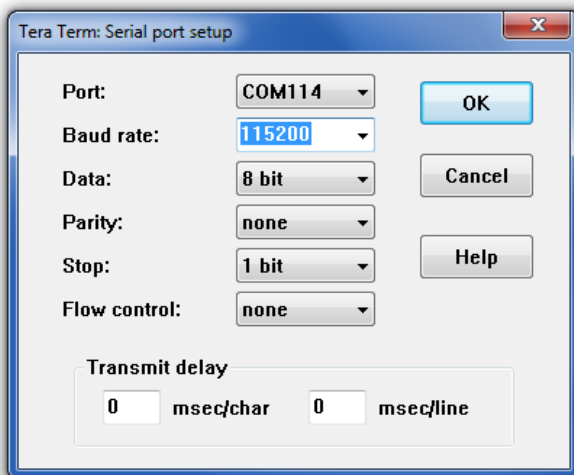

Figure 13: Screenshot that shows serial settings
1. Connect to the module using Tera Term, and set the serial settings as shown in Figure 13.